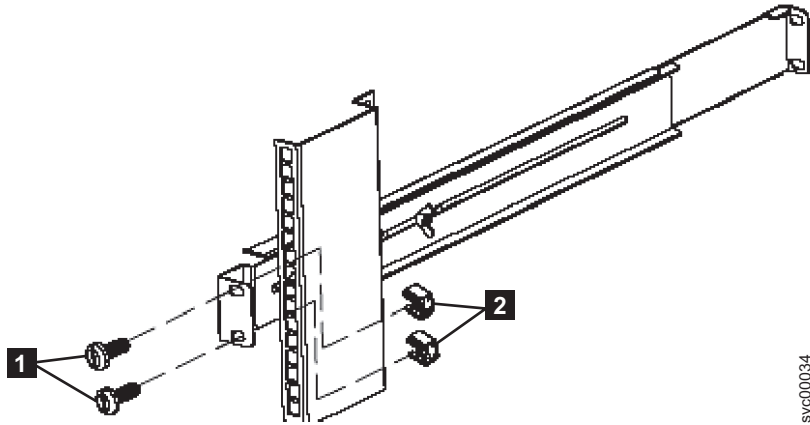

Figure 323. Removing the rear rail on the 2145 UPS-1U
5. Remove the two M6 × 10 screws from the rear side of the rail (**1** in Figure 323 on page 313) and the two clip nuts (**2**).